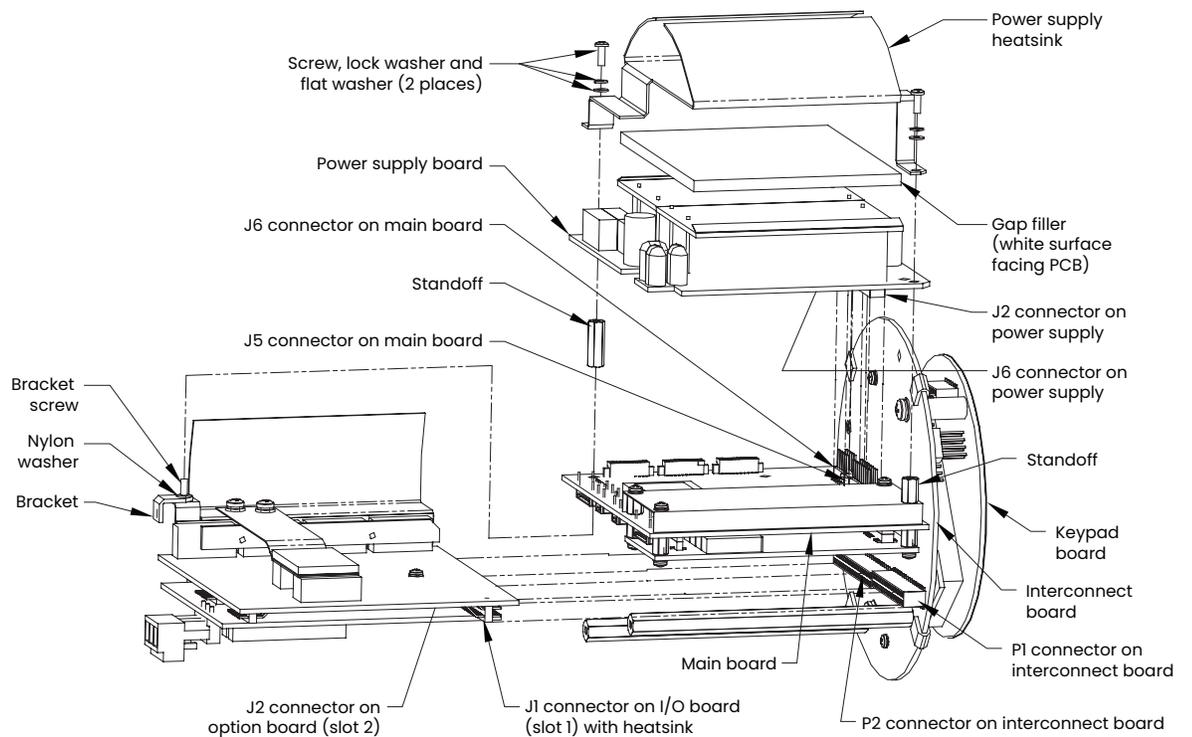

Figure 8: Model XGF868i I/O option card subassembly
To install an option card, see *Illustrations 9, 10 and 11 in Figure 8 on page 29* and complete the following steps:
3. Remove the screw from the angle bracket on the main board, as shown in *Illustration 11 in Figure 8 on page 29*.
NOTE: To attach an optional heat sink to an I/O option card, see *Attaching an optional heat sink to an I/O option card on page 23*. When the XGF868i includes both an I/O board (slot 1) and an option board (slot 2), the two boards must be attached to each other with the hardware shown in *Illustration 10 in Figure 8 on page 29*. Pre-attach the nylon washer to the screw before inserting the boards into the assembly.
If you need to attach an optional heat sink to an I/O option card (the TI, TR, FI or FR options in **Appendix B** of the **Startup guide**), refer to *Illustration 9 in Figure 8 on page 29* and complete the following steps:
1. Orient the thermal heat pad(s) to the heat sink as shown in *Figure 8 on page 29* and apply it to the heat sink.
Most of the parts replacement procedures described in this chapter require removal of the circuit board assembly from the electronics enclosure. Furthermore, most of the procedures require varying degrees of disassembly of the circuit board assembly. See *Figure 8 on page 29* and follow the instructions in this section to assemble the circuit board assembly and/or to install it in the electronics enclosure.
If the circuit board assembly has been disassembled to any degree, complete the steps below. Otherwise proceed directly to *Installing the circuit board assembly on page 25*. See *Figure 8 on page 29* and complete the following steps:
1. If necessary, replace the angle bracket on the main board, insert the screw (with flat washer and lock washer), and screw it into the standoff on the main board. See *Illustration 11 in Figure 8 on page 29*.
3. Secure the power supply board and heat sink to the main board by reinstalling the screws, flat washers and lock washer previously removed from the corners of the power supply board. See *Illustration 11 in Figure 8 on page 29*.